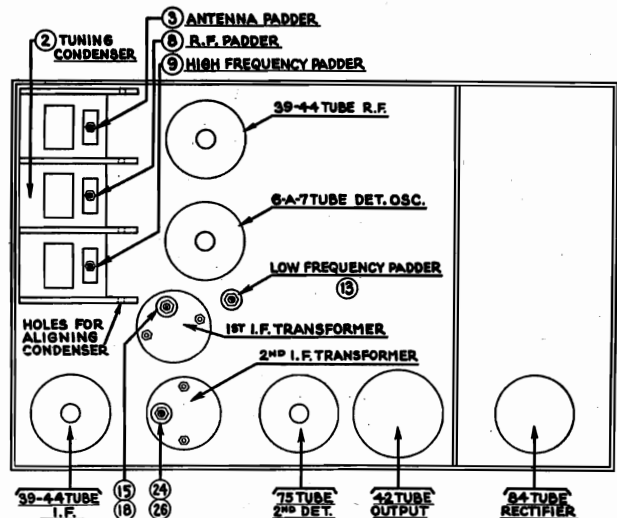

FIG. 2
Remove the speaker lid from the Receiver and disconnect the antenna lead from the Receiver. Remove the grid cap from the 6A7 tube (for location see Fig. 2).
Set up the signal generator and adjust it to exactly 260 K. C. Connect the generator lead to the grid cap of the 6A7 tube. (See Fig. 2.) The output meter must be connected by means of an adapter to the small prong of the speaker plug and to the chassis.
The padders ② and ③ are adjusted first (Figs. 2 and
3.) Turn the adjusting screw ② all the way in. A metal screw driver can be used for this. Then, with generator attenuator set so there is approximately half-scale reading, adjust the nut ③ with a fibre wrench for the maximum reading on the output meter.
There are four holes in line, one in each of the sections of the tuning condenser housing. (See Fig. 2.) Place a nail of the size that fits snugly through the holes and then turn the condenser plates out of mesh until they strike against the nail.